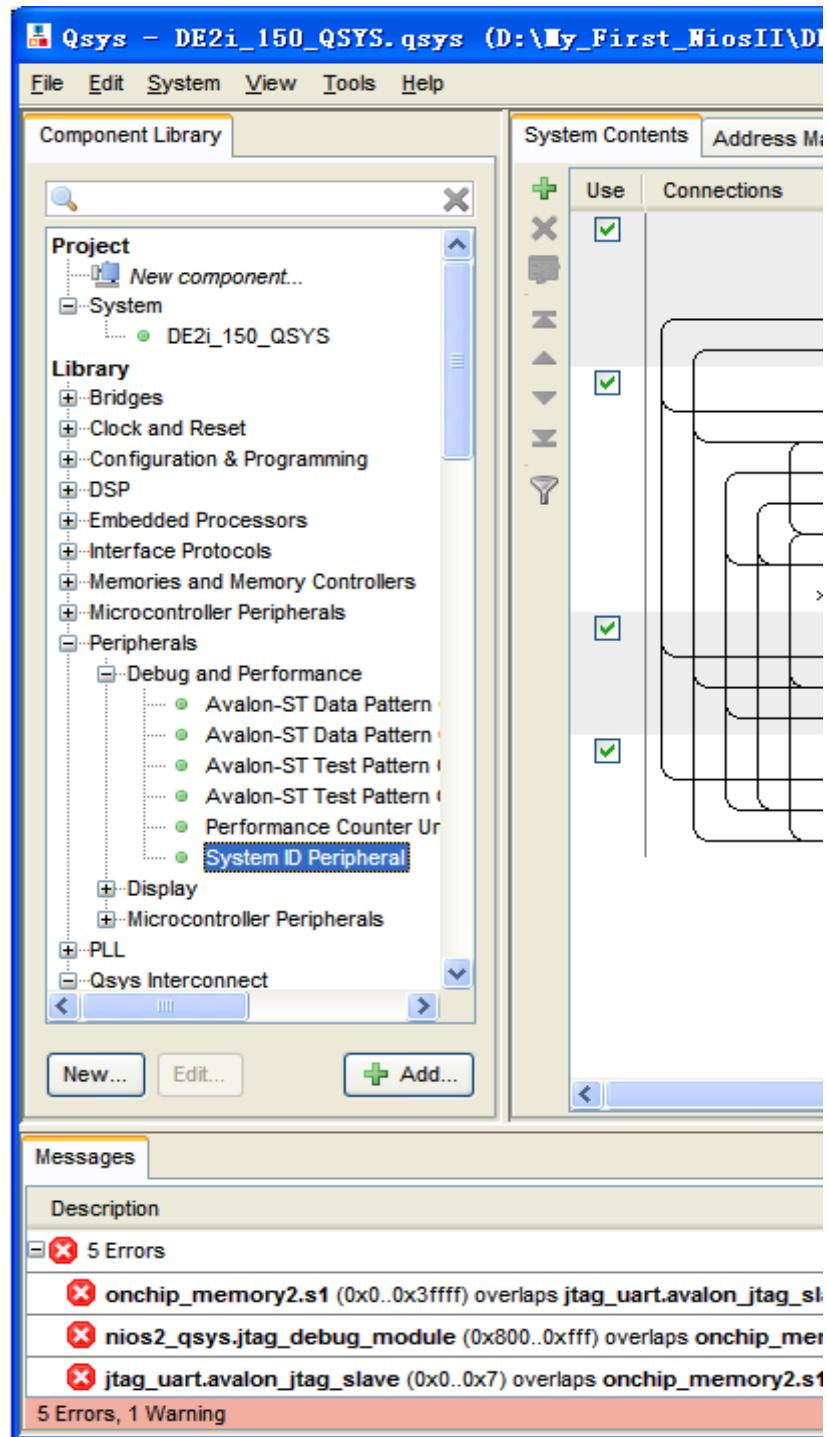
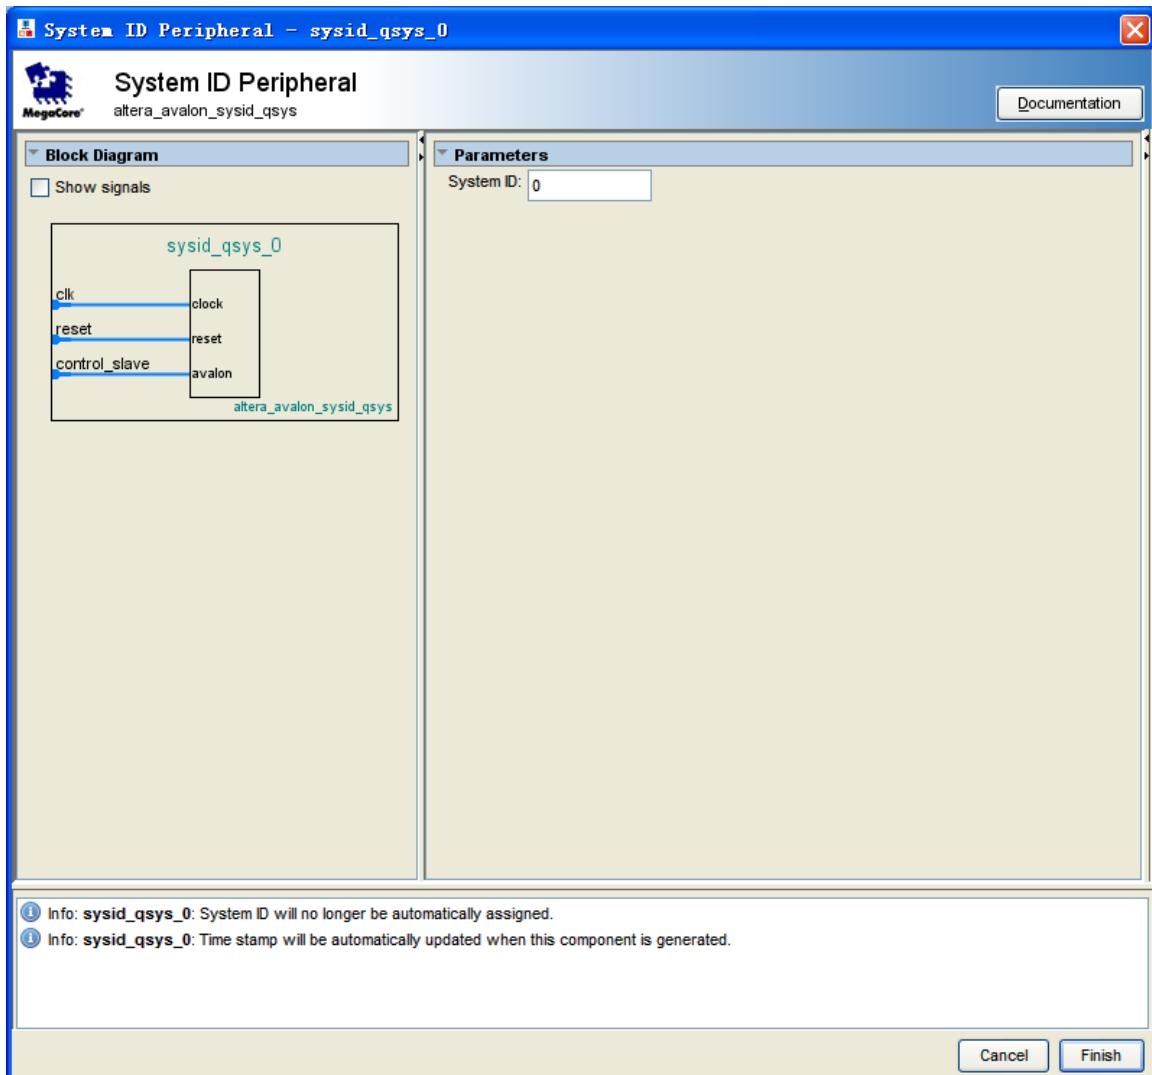

Figure 1-34 Add System ID [0]
Figure 1-35 Add System ID [1]
21. Choose **Library > Peripherals > Debug and Performance >System ID Peripheral** to open wizard of adding **System ID**. See Figure 1-34 and Figure 1-35.